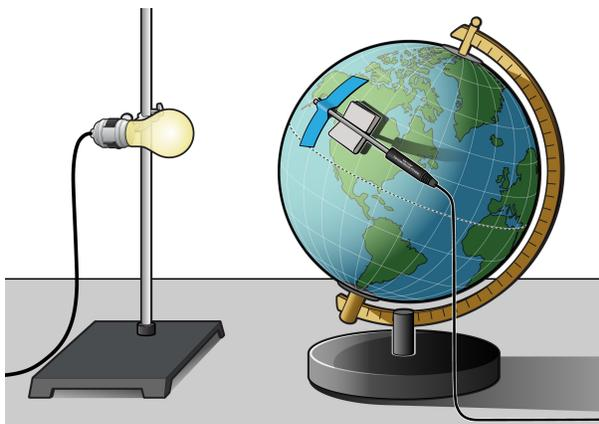

Figure 2
- a. Fasten the lamp to a ring stand as shown in Figure 2.
- c. Position the globe with the North Pole tilted away from the lamp as shown in Figure 2.